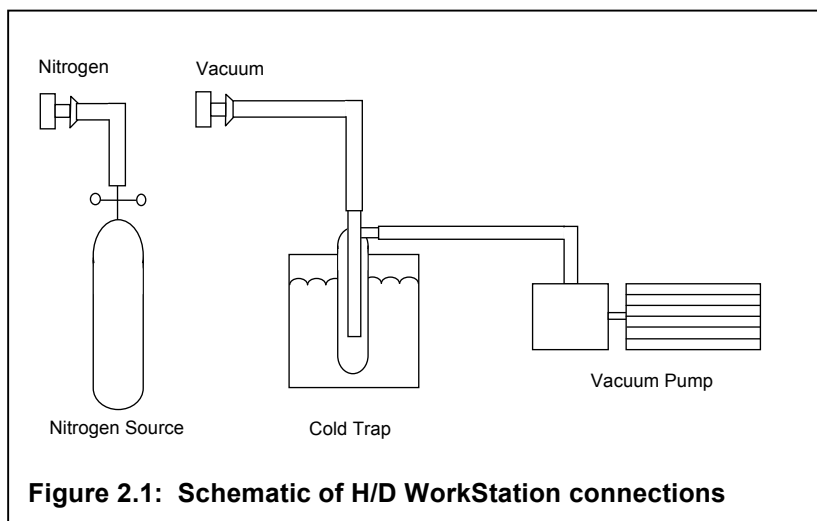

Figure 2.1: Schematic of H/D WorkStation connections
1. Make certain both valves (nitrogen and vacuum) on the WorkStation are closed completely (clockwise). Figure 2.1 schematically illustrates the various connections in the H/D Module assembly.